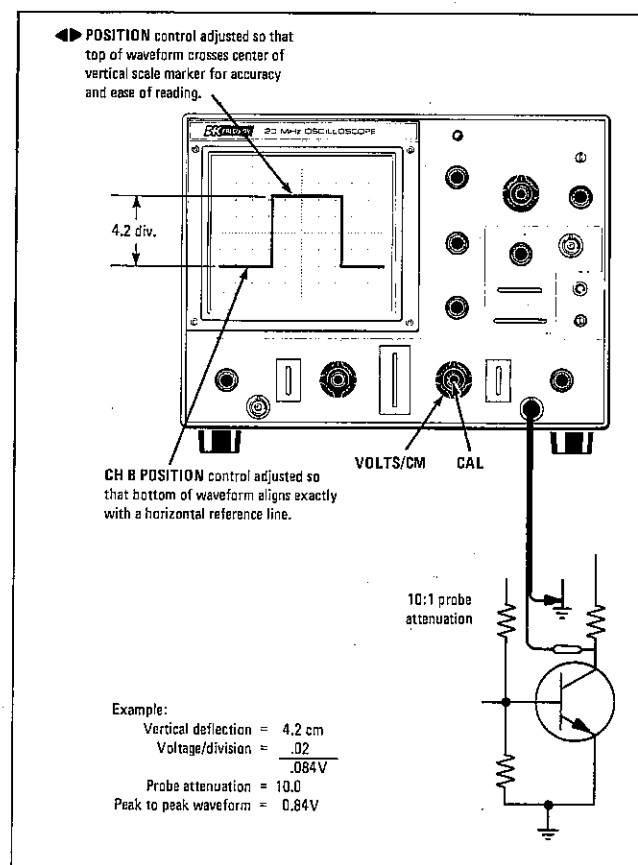

Fig. 5. Typical voltage measurement.
CALIBRATED VOLTAGE MEASUREMENT (See Fig. 5)
2. Be sure the CH B vertical VARIABLE control (22) is set fully clockwise to the CAL position.
3. Set CH B VOLTS/CM switch (21) for the maximum vertical deflection possible without exceeding the limits of the vertical scale.
4. Read the amount of vertical deflection (in cm) from the scale. The CH B POSITION control (18) may be readjusted to shift the reference point for easier scale reading if desired. When measuring a DC voltage, adjust the CH B POSITION control (18) to a convenient reference with the CH B AC-GND-DC switch (20) in the GND position, then note the amount the trace is deflected when the switch is placed in the DC position. The trace deflects upward for a positive voltage input and downward for a negative voltage input.
5. Calculate the voltage reading as follows: Multiply the vertical deflection (in cm) by the VOLTS/CM control (21) setting (see example Fig. 5). Remember that the voltage reading displayed on the oscilloscope is only 1/10th the *actual* voltage being measured when the probe is set for 10:1 attenuation. The actual voltage is displayed when the probe is set for direct measurement.
6. Calibration accuracy of this oscilloscope may be occasionally checked by observing the 0.1-volt peak-to-peak square wave signal available at the CAL 0.1 V p-p terminal (10). This calibration source should